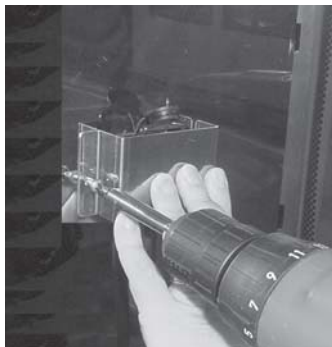

Figure 2-4
- e. Insert the tab on the shelf plug cover into the slot on the back panel and secure the cover in place using the screw previously removed. Figure 2-4.